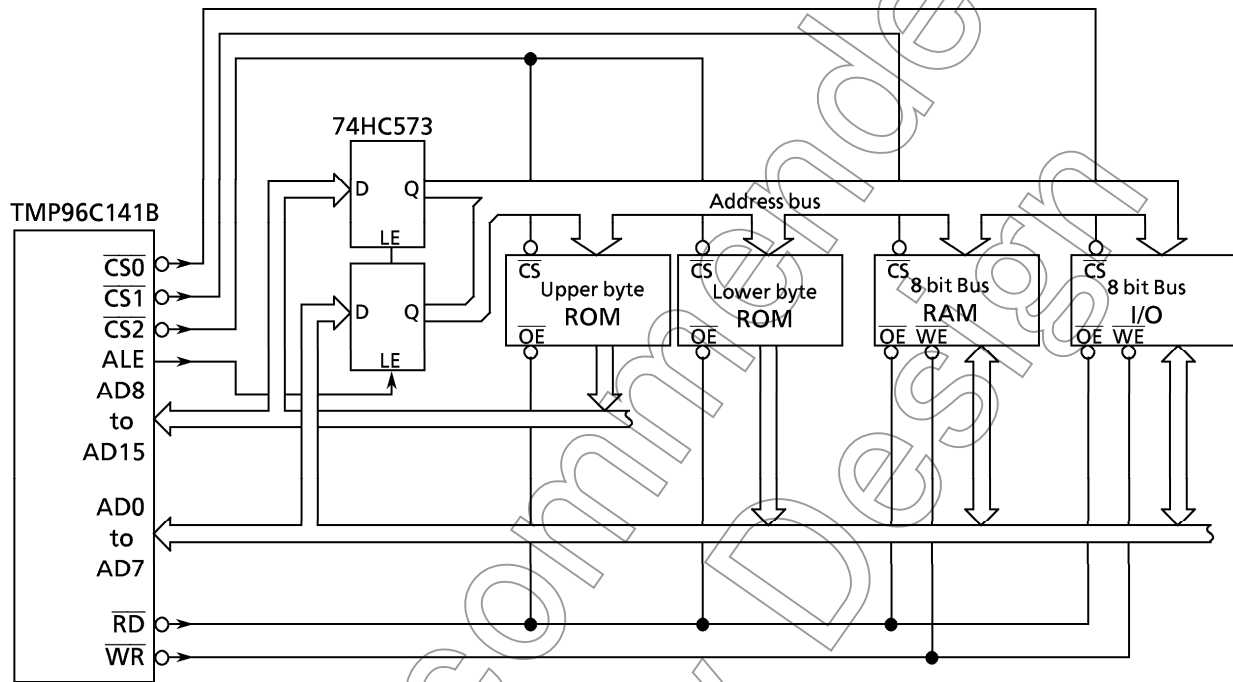

Figure 3.6 (1) Example of External Memory Connection (ROM = 16 bits, RAM & I/O = 8 bits)
Figure 3.6 (1) is an example in which an external memory is connected to the TMP96C141B. In this example, a ROM is connected using 16 bit Bus; a RAM is connected using 8 bit Bus.